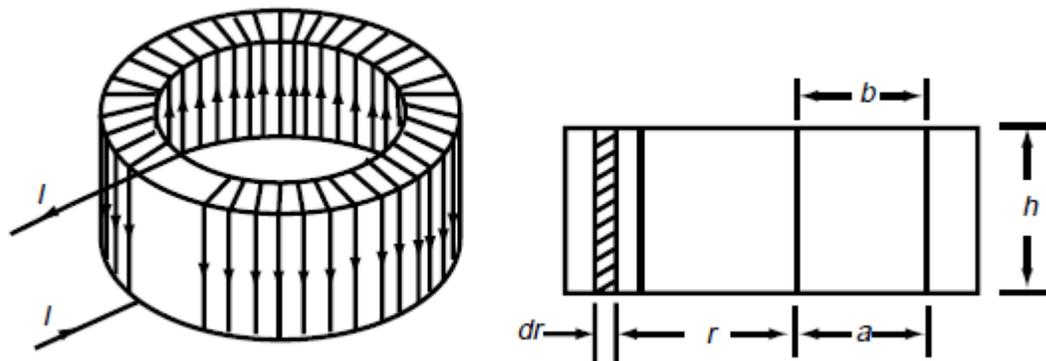

Figure 28: A Closely Wound Toroidal Coil
When the dimensions of the windings compare in size with the toroid radius, the simple expression of equation (19) is inadequate. To illustrate the point, consider the rectangularly cross-sectioned toroid of Figure 28. It is easy to show analytically that, for this geometry :